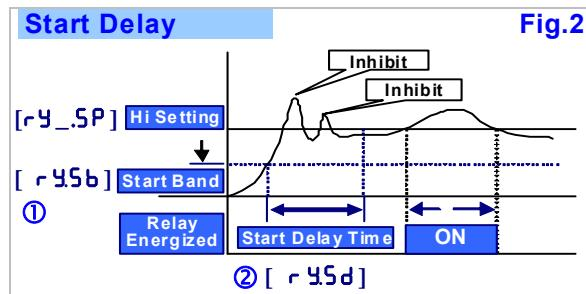

Fig.2
● Start band [rY_5b] (Fig.2-①):
● Start delay time [rY_5d] (Fig.2-②):